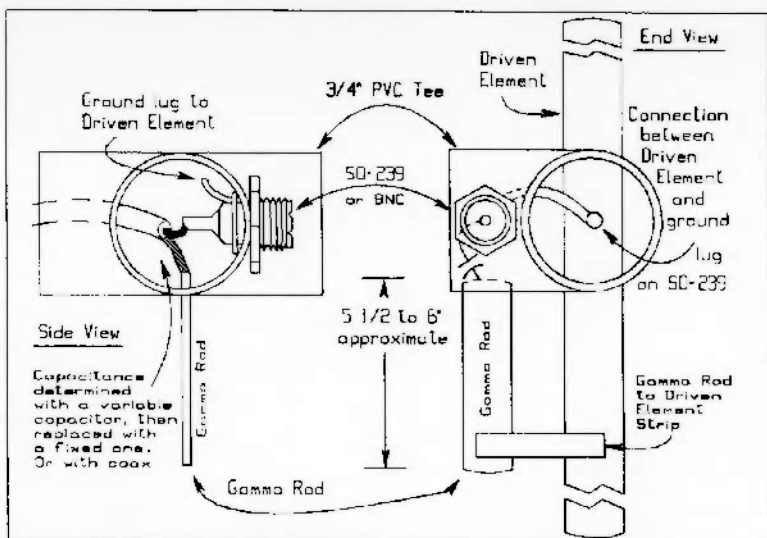

Fig. 2. Tuning the Insta-Flex Yagi, method B.
•Method B (Fig. 2): Use a variable capacitor (optional), and adjust for lowest SWRs. You may have to move the strip between the gamma rod and driven element up or down. After the correct capacitance is found, leave the variable capacitor in place, replace it with a fixed one, or use a coax capacitor. I've found it easier to replace the variable capacitor with coax and trim as needed. With both a three-element and a four-element, I have had better luck and faster tuning using the coax capacitor.